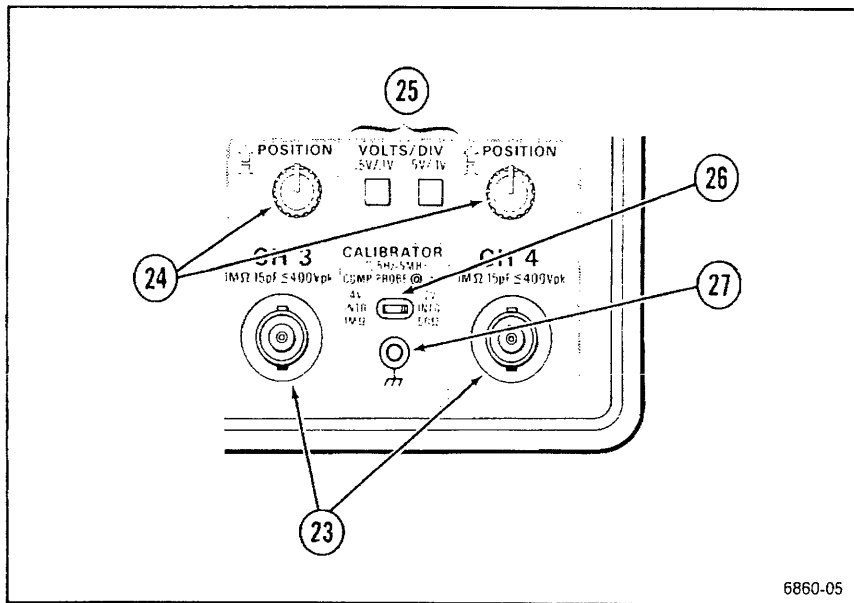

Figure 5-4. CH 3 and CH 4 controls and connectors and CALIBRATOR output.
- ②② **CH 1 OR X and CH 2** Conduct external signals to the Channel 1 and Channel 2 vertical inputs. A signal applied to the CH 1 OR X connector provides the horizontal deflection for an X-Y display. Each connector includes a coding-ring contact for Tektronix-coded probes.
Refer to Figure 5-4 for the location of items 23 through 27.
- ②③ **CH 3 and CH 4 Input Connectors** Conduct external signals to the Channel 3 and Channel 4 vertical inputs. Each connector includes a coding-ring contact for Tektronix-coded probes. Input coupling from these connectors is DC only. Channel 3 and Channel 4 are most useful as digital-signal and trigger-signal input channels, given their limited choice of deflection factors.
- ②④ **POSITION Controls** Set vertical position of the Channel 3 and Channel 4 signal displays. The controls operate identically to the Channel 2 POSITION control, but with less range on their associated traces.
- ②⑤ **VOLTS/DIV Switches** Toggle between 0.1 V and 0.5 V per division deflection factors for Channel 3 and Channel 4.
- ②⑥ **CALIBRATOR Connector** Provides a 0.4-V p-p square-wave into a 1 M $\Omega$  load, 0.2-V p-p into a 50  $\Omega$  dc-coupled load, or 8-mA p-p into a short circuit. The signal is useful for checking sweeps, delay-times, and vertical deflection accuracies, as well as compensating voltage probes and checking the accuracy of current probes. The repetition rate of the square wave changes with A-Sweep SEC/DIV changes. From 100 ms per division to 100 ns per division, the A Sweep of the instrument supplying the CALIBRATOR signal displays five cycles per 10 divisions. At 100 ms per division and slower, the CALIBRATOR frequency is 5 Hz; at 100 ns per division and faster, the frequency is 5 MHz. The signal amplitude at 5 MHz is at least 50% of the signal amplitude obtained when the sweep speed is set to 1 ms per division.